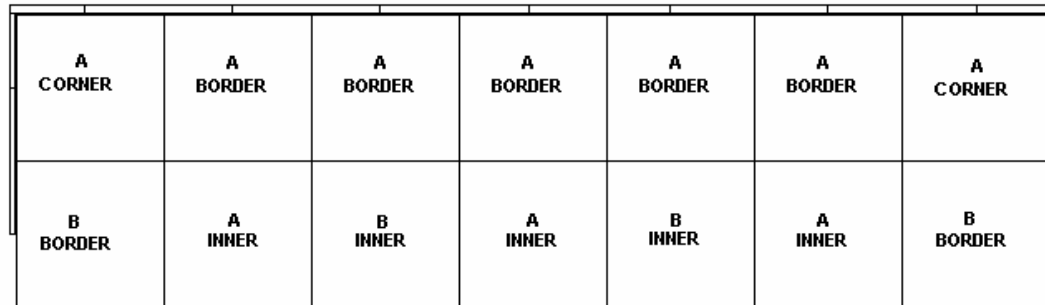

Figure 19
18. Now you need to install the Right Border. This border can be either an “A BORDER RIGHT” or “B BORDER RIGHT” depending on the size of the floor. (Figure 19)